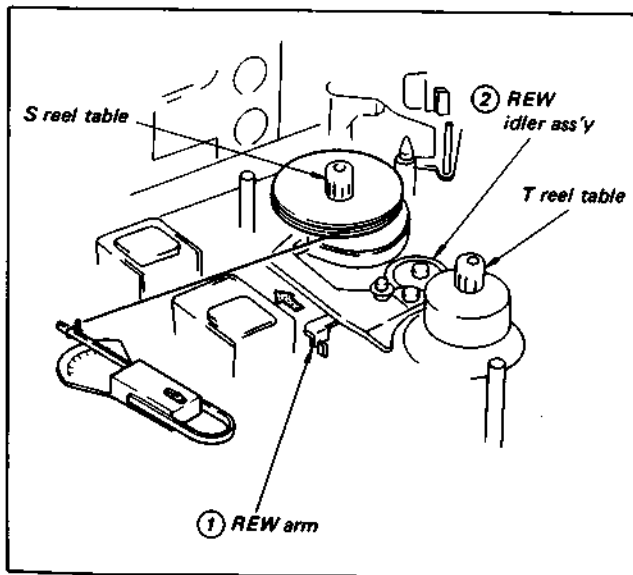

Fig. 3-47. Check of supply and take-up brake torque (2)
- 3) Set the reel table tension gauge as shown in Fig. 3-47.
- 4) Push the REW arm ① in the direction of the arrow by hand, and separate the REW idler assembly ② from the supply reel table.
- 2) Mount the reel table tension gauge (Jig Ref. No. J-4) as shown in Fig. 3-47, and hook the sector type gauge (50g full scale, Ref. No. J-6) to the end of the string.